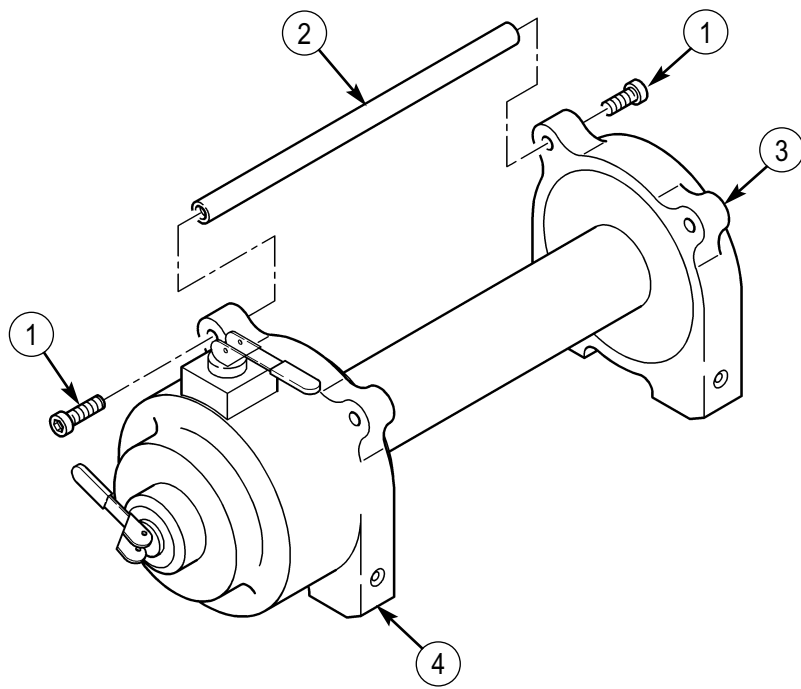

Figure 5
13. Remove four bolts (1) and two tie bars (2) from motor end support assembly (3) and gearbox housing assembly (4) as shown in figure 5.
16. Apply adhesive to threads of four bolts (1). Install two tie bars (2) on motor end support (3) and gearbox housing (4) with four bolts (1) as shown in figure 5. Tighten bolts (1) to 18 lb-ft.